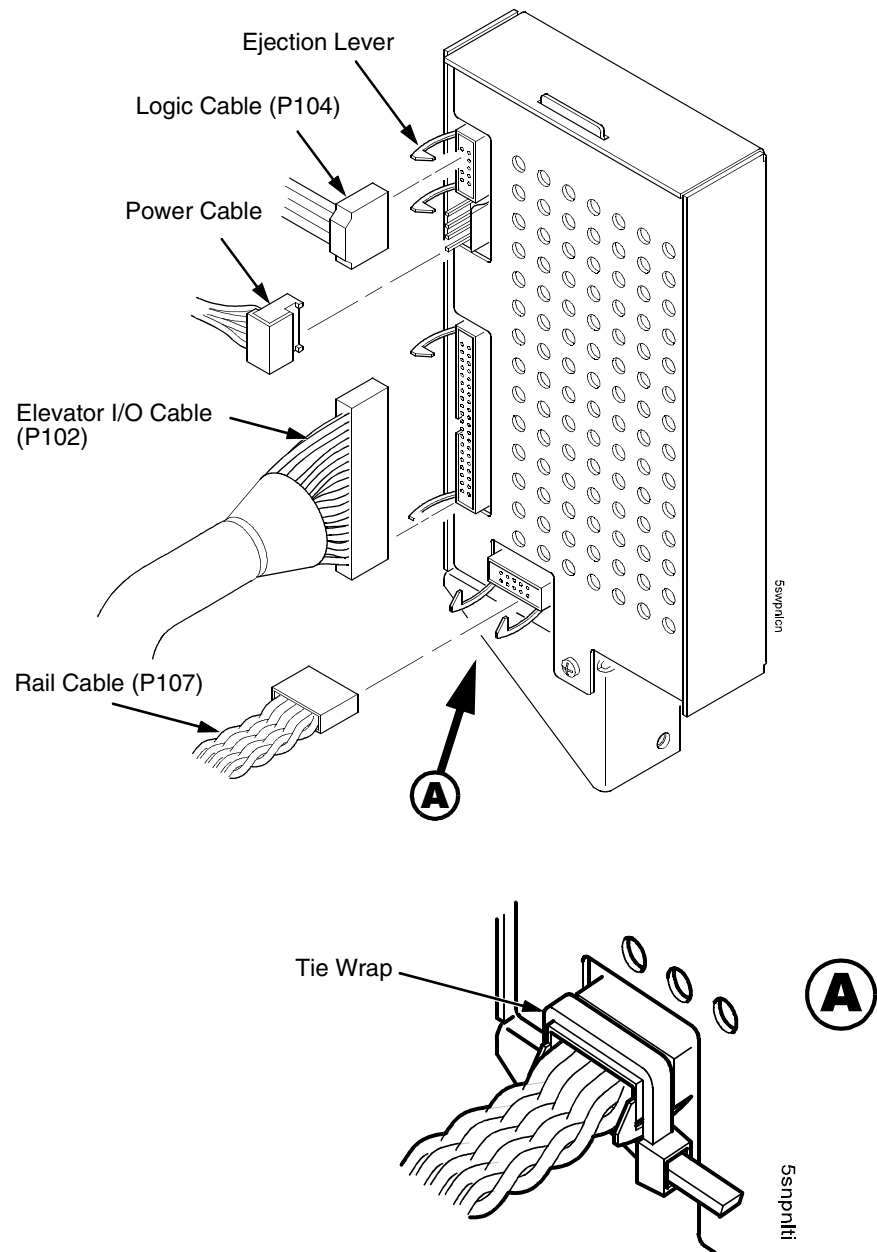

Figure 88. Stacker Control Panel Cables
22. Connect the stacker cables to the rear of the stacker control panel assembly and make sure the ejector levers close over the connectors. (Figure 88.)
23. Press rail cable connector P107 into the control panel until the ejectors close, then tie wrap the ejectors to the connector. (Figure 88, detail A.)